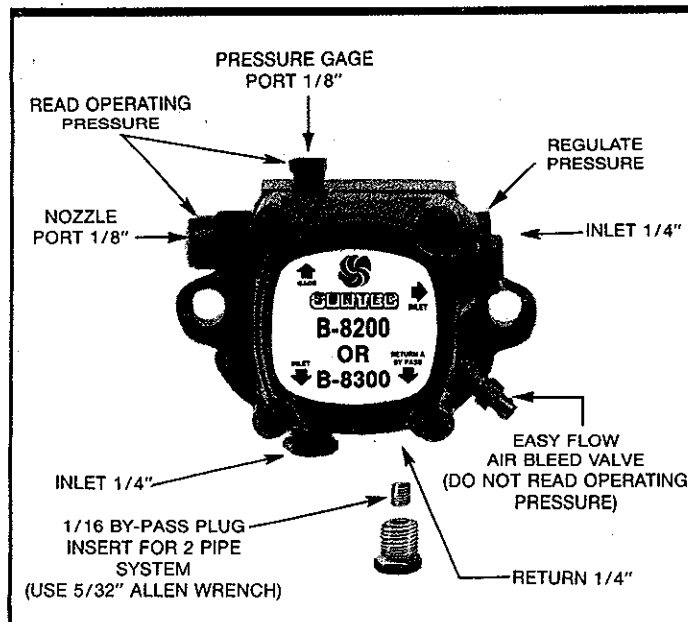
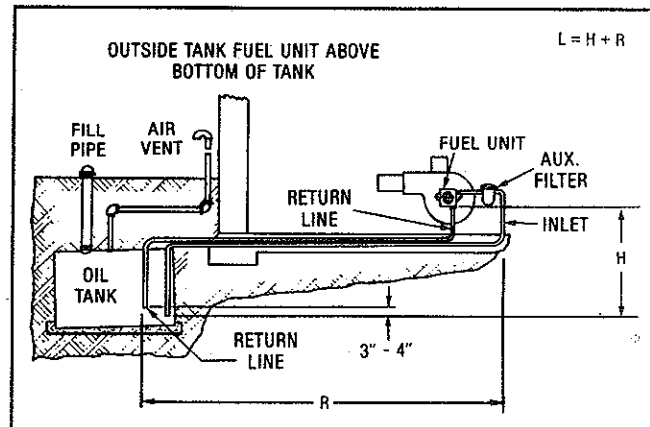

FIGURE 1
FIGURE 4
### TWO-PIPE SYSTEM • FIGURE 4
**REMOVE 1/16" BY-PASS PLUG FROM PLASTIC BAG ATTACHED TO UNIT.** Remove 1/4" plug from return port. Insert by-pass plug (See Figure 1 or 2), tighten plug. Attach return and inlet lines. Start burner — Air bleeding is automatic. Opening Easy Flow Air Bleed Valve will allow a faster bleed if desired. Return line must terminate 3-4" above supply line inlet. (See Figure 4). Failure to do this may introduce air into the system and could result in loss of prime.
Always terminate return line as shown in Figure 4. Line lengths include both vertical and horizontal lengths.
Lift "H" Figure 4	3450 RPM